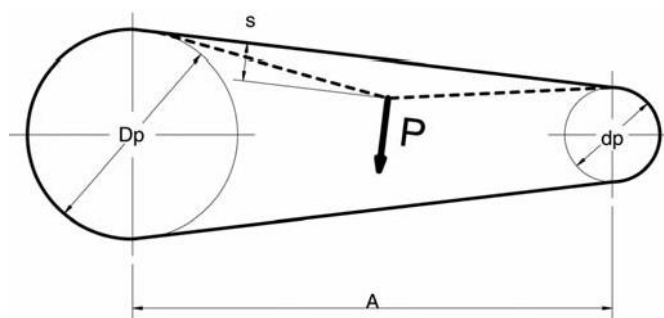
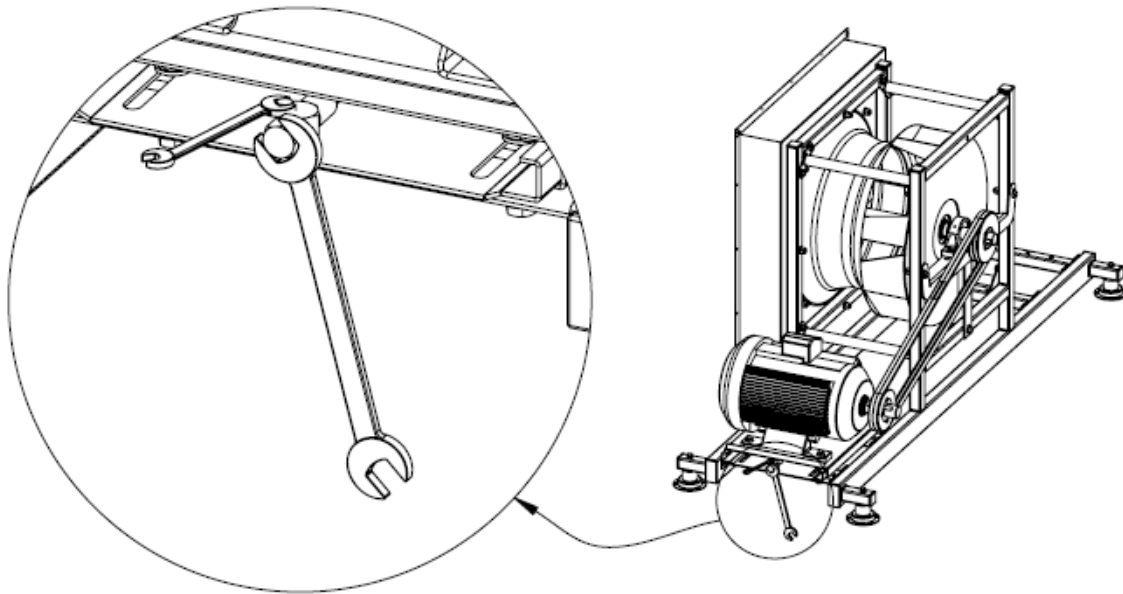

Fig.24 Deflection of a wedge-shaped belt
Fig. 26. Adjustment of wedge-shaped belts tension
1. Measure a distance between wheels' axes (A size. fig.24).
2. Measure power P needed in order to bend the belt by $S=16$ mm for each running meter of a distance between the axes, more or less in halfway between the axes (fig.24).
In case of incorrect belts tension, stretch them by moving the motor with a stretching screw located in the motor panel (fig.26), and compare tension values with the values shown in the table 18
Also check if the wedge-shaped belt is not broken, cracked, dried or damaged in any other way. Damaged wedge-shaped belt must be replaced. In case of multi-belt drive, even if just one belt is worn out, you have to replace all the belts making sure that they have the same length and fit the grooves of the pulley. If you do not replace all the belts, the new ones will transfer bigger overloads since they are a bit shorter than the old ones. During belts replacement ease the stretching screws of the motor panel (fig.26) so that the belts can be removed and replaced with new one manually without applying force. In no circumstances you are allowed to install the belts by force, with a screwdriver or with any other tool. During belt replacement check if the pulleys' contact surfaces are not worn out. New belts should be stretched so as the required deflection force P (fig. 24) was as